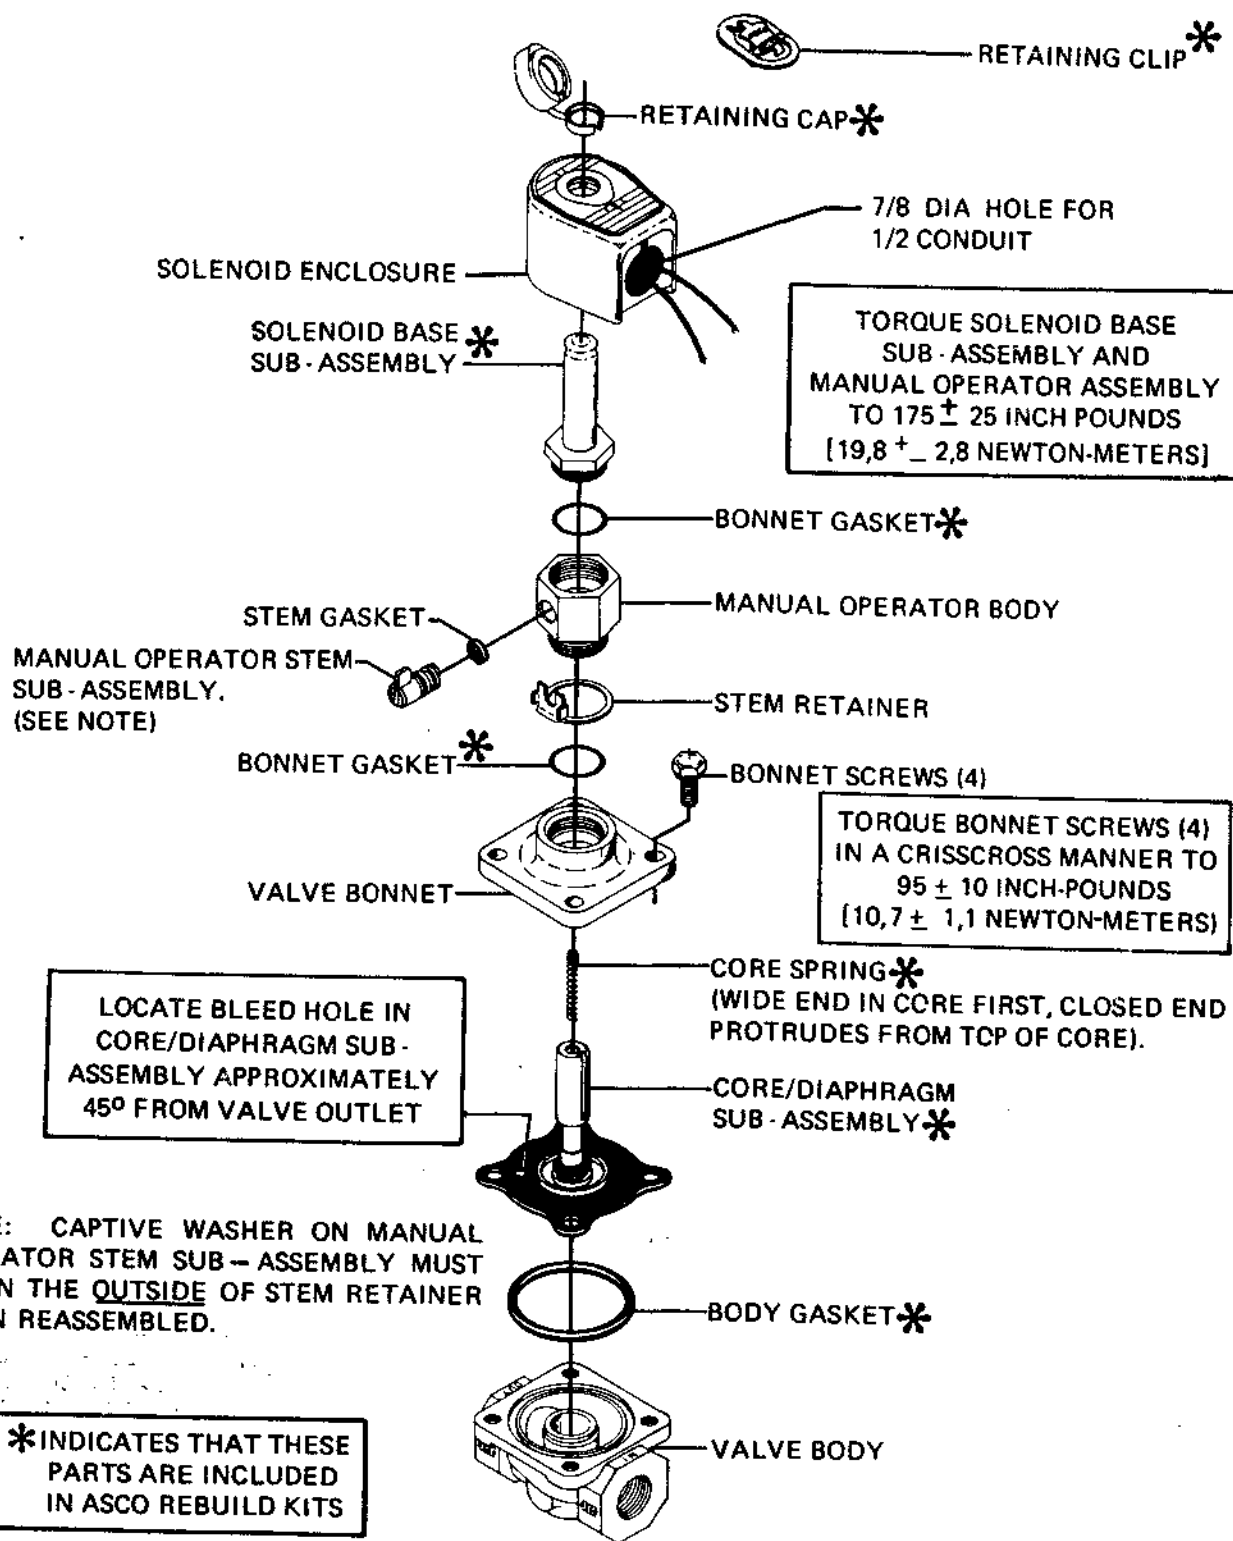

Figure 3. Bulletin 8210 - Manual Operator
**NOTE:** For valves with a manual operator (Suffix MO in catalog number) refer to Figure 3. For standard valves refer to Figure 2.
3. Remove bonnet screws (4), valve bonnet, core spring, core/diaphragm sub-assembly, and body gasket. **CAUTION:** Do not damage or distort banger spring between core/diaphragm sub-assembly.
7. Replace valve bonnet and bonnet screws (4). Torque bonnet screws (4) in a crisscross manner to  $95 \pm 10$  inch-pounds ( $10.7 \pm 1.1$  newton-meters).